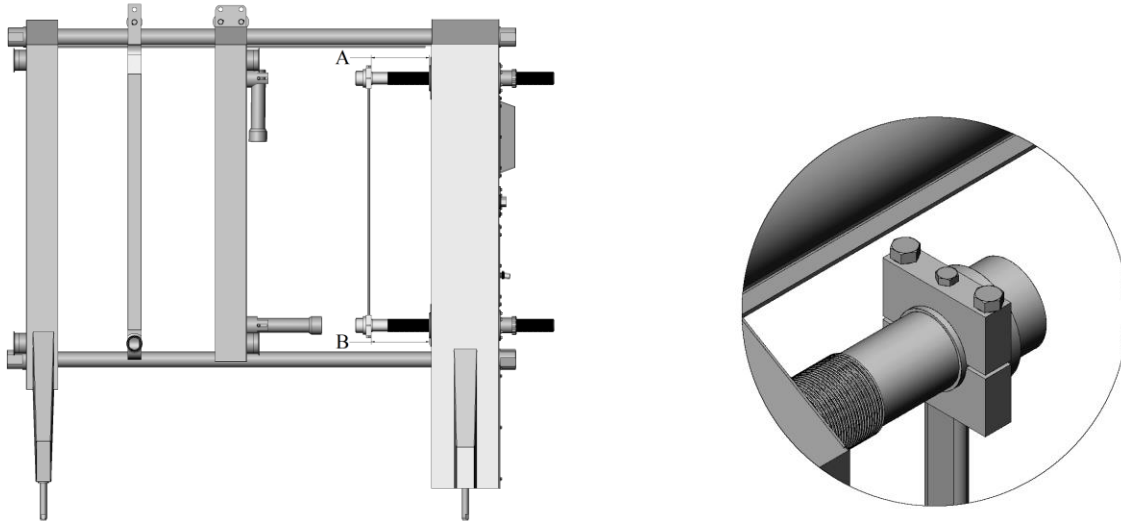

Figure 6-8
14. Adjust the spindle shafts so they are spaced an equal distance from the end support (see figure 6-8). Dimensions 'A' and 'B' must be equal. To adjust this dimension, loosen the two hex head screws and the clamping screw on the reaction bar end. Then rotate the spindle to establish matching dimensions A & B.